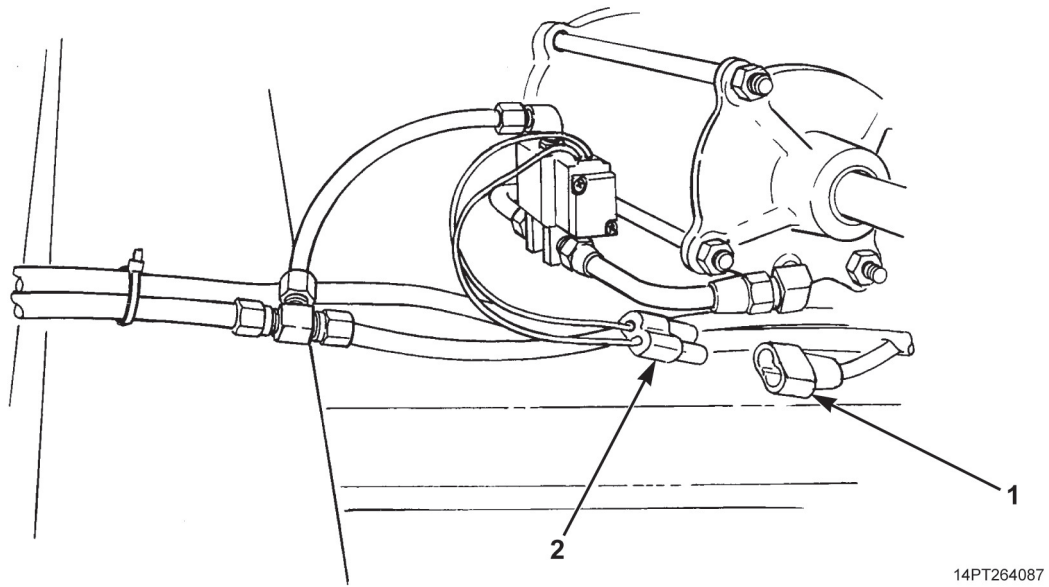

Figure 5. Connections at Solenoid.
3. Connect wiring harness connector (Figure 5, Item 1) to each air cylinder solenoid connector (Figure 5, Item 2).